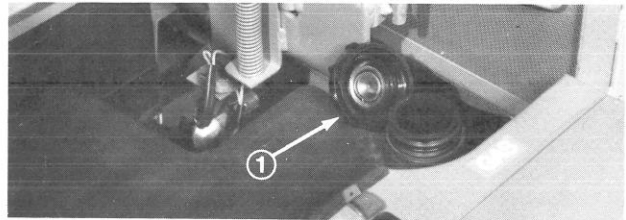

Figure 16
2. Remove cap from the fuel tank (Fig. 16) and fill the 8-1/2 gallon (30.3 L) tank to within 1 inch (25 mm) from the top with gasoline. Install fuel tank cap tightly after filling tank.